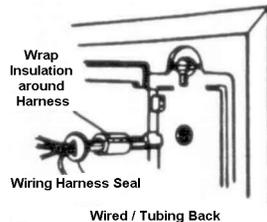

Figure 13
9. This step not required on smooth back models. Wrap foam pad (previously removed from opening), around wiring (see Figure 13 & 14), to protect from abrasion. If insulation was damaged, wrap with electrical tape to protect the wiring. Typically the smooth back models will have the harness mounted to the inside of the freezer, there are short harnesses for these applications provided in this kit.